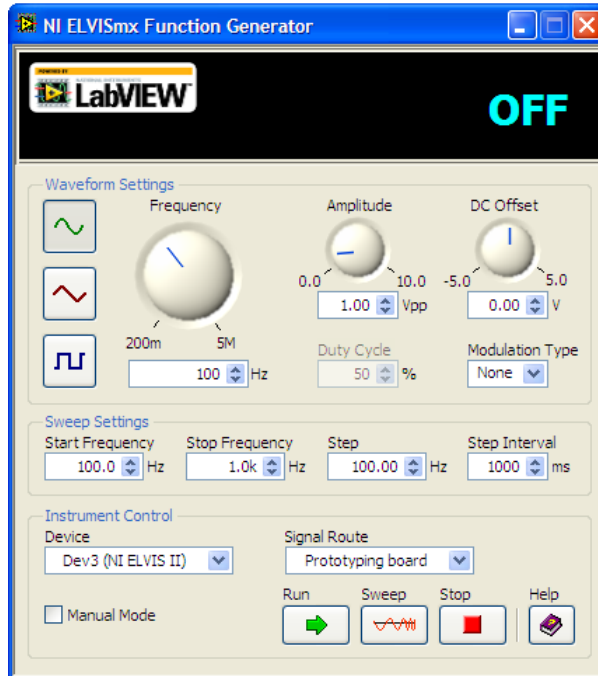

Fig 12. Uninitialized Function generator.
5. From NI Elvis instrument launcher, click on "Function Generator" (FGEN). Ensure that the manual mode is turned off on the workstation so that all the buttons on the function generator window are not disabled. The initial function generator should appear as shown in figure 12.
As shown in figures 12 & 13, FGEN SFP has the following controls which can be used to: